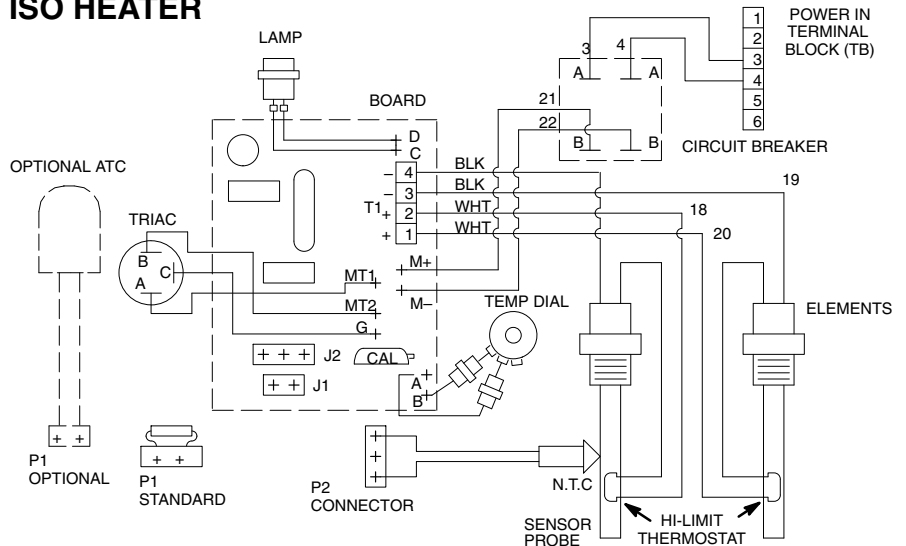

Fig. 19
11. Insert the new probe wires into the outer slots of the connectors P2. See Fig. 19, page 29. Do not connect a wire to the center.
16. Remove the control panel cover (216). Guide the wires of the heater up through the bottom of the control box.
17. Remove the strap holding the heater. Position the heater mounting bracket over the threaded shafts of the cylindrical mounts (104 and 105). Install the lockwashers (103) and nuts (102).
19. Reinstall the heater element and thermostat wires at terminal block T1 of the circuit board. See Fig. 19 for the proper wire positions.
20. Reinstall the control panel cover (216).
Heater No. 235–840 is shown in Fig. 19. The wiring for Heater No. 235–839 is identical except the second set of elements (wires 9, 10, 19, 20) are not used.